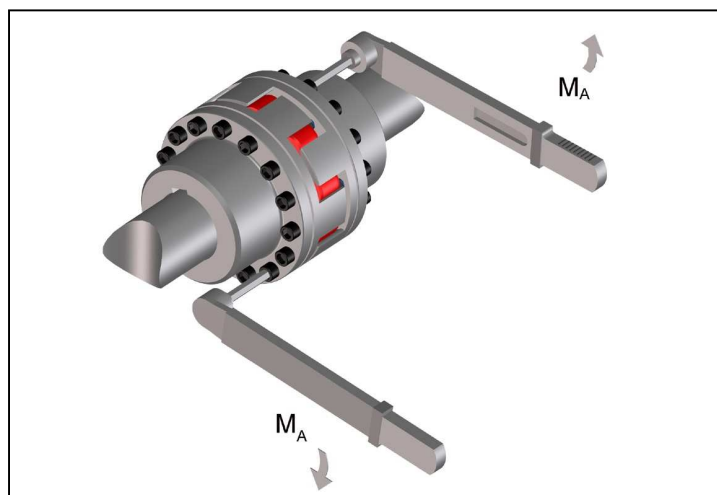

Fig. 11
- Tighten the screws to the proper torque  $M_A$  specified in table 7 (Fig. 11).